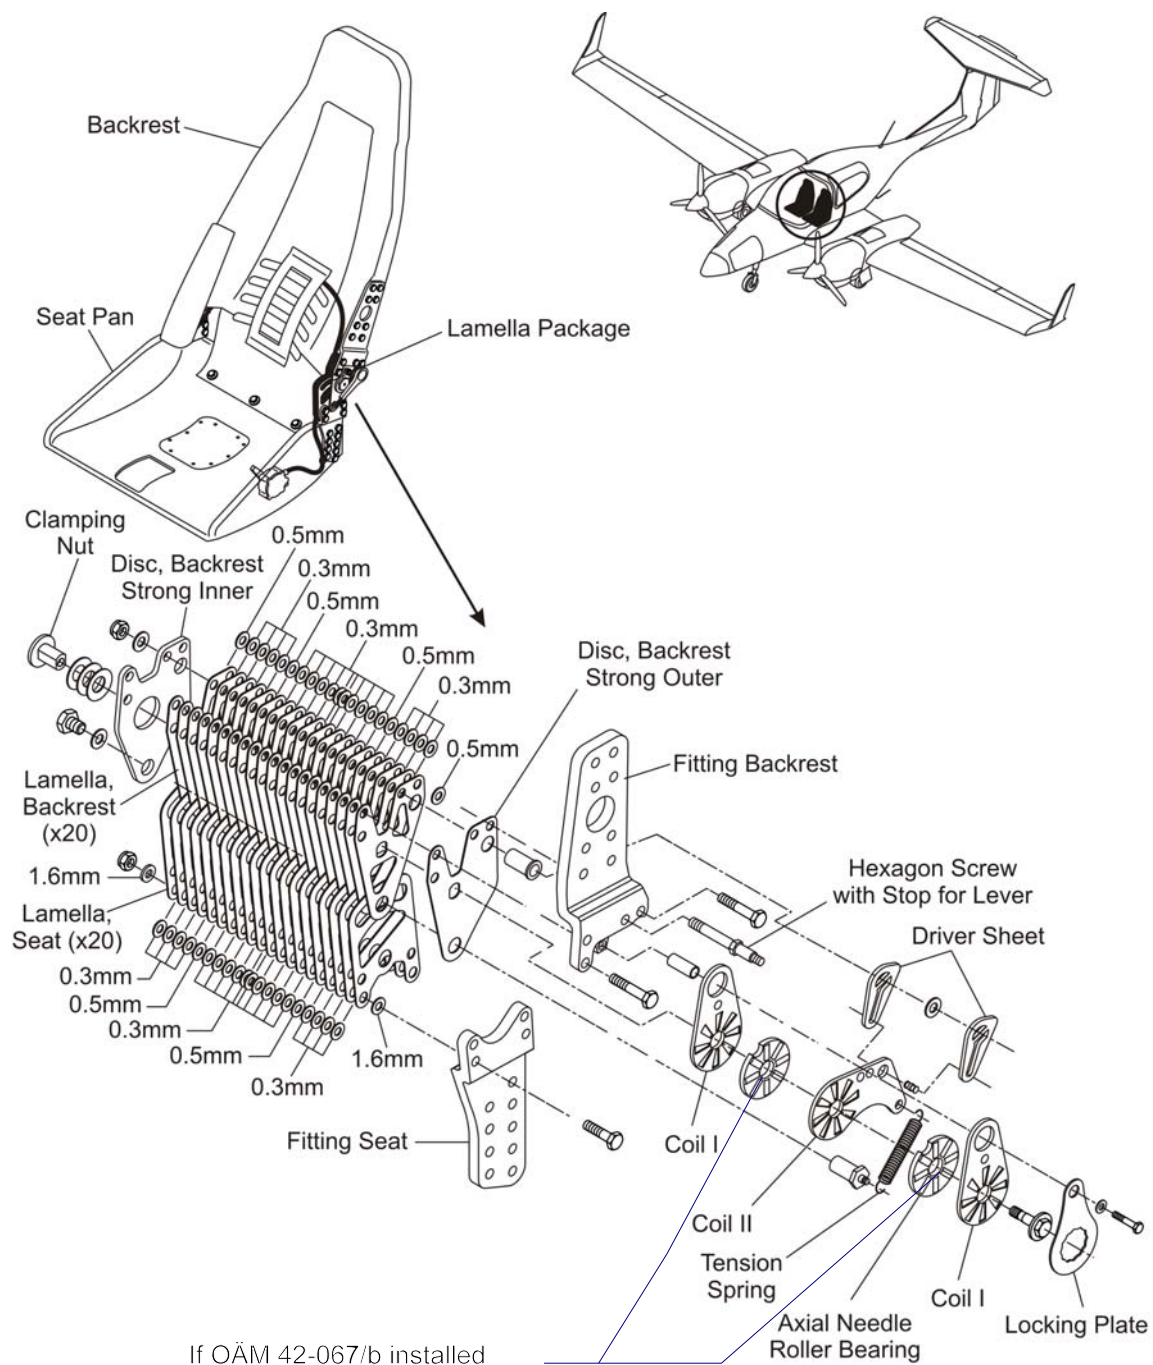

Figure 6: Adjustable Backrest Assembly (if OÄM 42-067 is installed)
(1)	Arrange the seat fitting and the backrest fitting and place the 7 hexagon screws (M6 x 32) and a hexagon screw with stop for lever as shown in Figure 6. Use some adequate bars to put under the fittings.
(2)	4 Washers	1.6 mm	Disc, Backrest Strong Outer	1.6 mm
(3)	Stick the bolt (10 mm) through the outer backrest disc.
(4)	Lamella	0.3 mm	4 Washers	0.5 mm
(5)	4 Washers	0.3 mm	Lamella	0.3 mm	Repeat steps (5) and (6) four times.
(6)	Lamella	0.3 mm	4 Washers	0.3 mm
(7)	4 Washers	0.5 mm	Lamella	0.3 mm
(8)	Lamella	0.3 mm	4 Washers	0.5 mm
(9)	4 Washers	0.3 mm	Lamella	0.3 mm
(10)	Lamella	0.3 mm	4 Washers	0.3 mm
(11)	4 Washers	2 x 0.3 mm	Lamella	0.3 mm